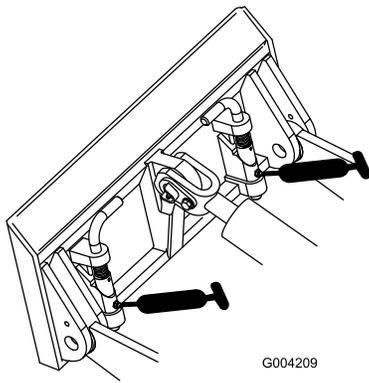

Figure 20
4. Connect a grease gun to each fitting (Figure 19 and Figure 20).